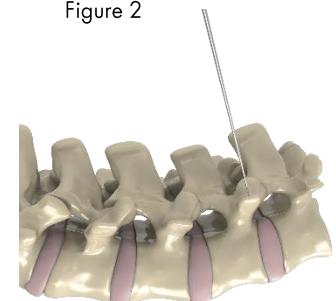

Figure 3
- c. Explore the prepared pathway with the Ball Tip Sounder (39-SP-0011) to confirm that integrity of the pedicle wall has not been violated (Figure 3).